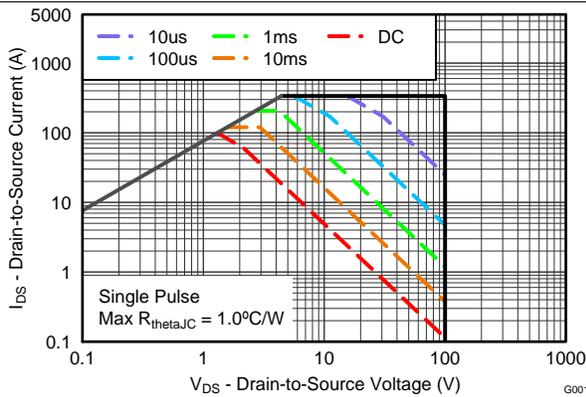

Figure 10. Maximum Safe Operating Area
• Updated the safe operating area in <a href="#">Figure 10</a> .....	6